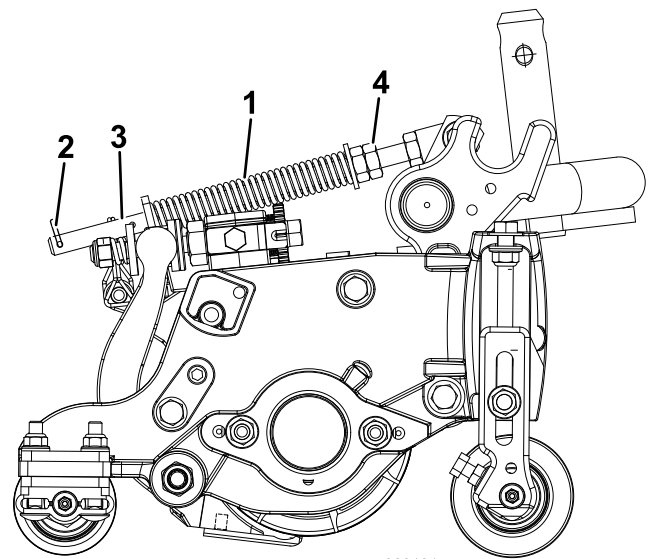

Figure 11
The turf compensation spring (Figure 11) transfers weight from the front to the rear roller. (This helps to reduce a wave pattern in the turf, also known as marcelling or bobbing.)
1. Make sure the hairpin cotter is installed in the rear hole in the spring rod (Figure 11).
2. Tighten the hex nuts on the front end of the spring rod until the compressed length of the spring (Figure 11) is 12.7 cm (5 inches).